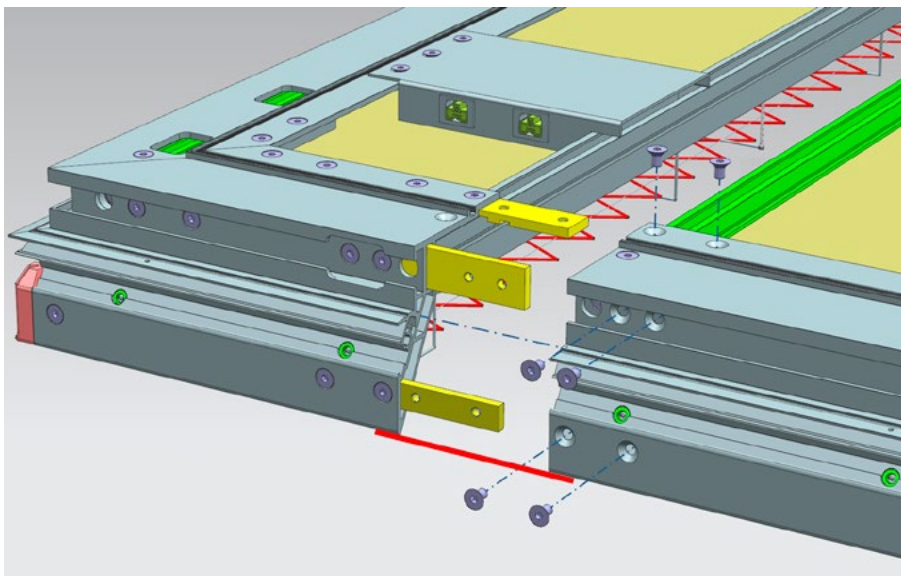

Figure 8: Connect both modules together using the coupling plates.
- Connect both modules together using the coupling plates and fix using the supplied M6x10mm bolts. Ensure that the modules are connected flat and level at the base, see red line, Figure 8.